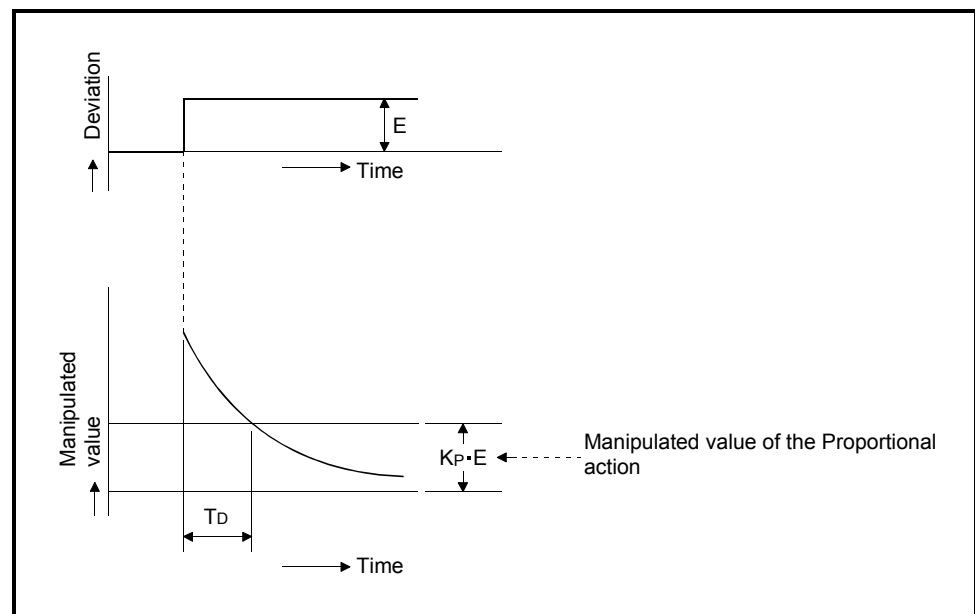

Fig. 1.10 Derivative action for step response
- (2) In the derivative action, the time from the deviation occurrence until the manipulation value of the derivative action becomes that of the proportional action is called the derivative time, and is indicated by  $T_D$ .
- (3) The derivative action for the step response when the deviation is constant is shown in Figure 1.10.
- (4) The derivative action is used as a PD action in combination with the proportional action, or PID action in combination with the proportional and integral actions.